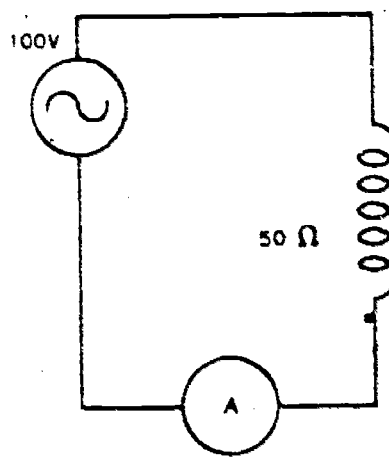

Figure 4
14. Will the current flow in this circuit (figure 4) be less than, more than, or equal to the current flow in problem 13? \_\_\_\_\_